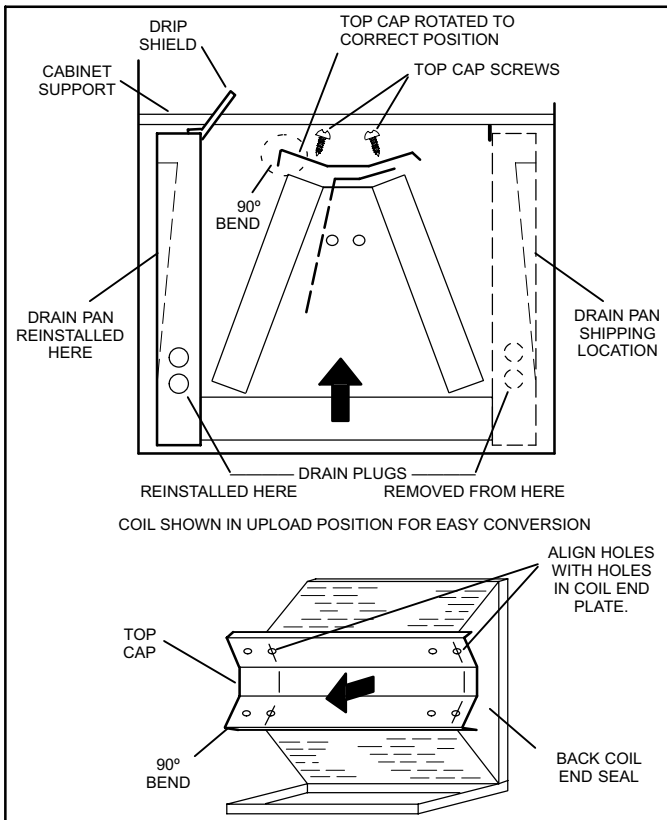

Figure 4. Field Modification for Left-Hand Discharge
- Remove screws from top cap. Remove horizontal drip shield screw located in the center of the back coil end seal as illustrated in figure 4.
- Rotate top cap 180° front-to-back and align with unused screw holes. Holes must align with front and back coil end plates. The top cap has a 45° bend on one side and a 90° bend on the other. The 90° bend must be on the same side as the horizontal drain pan as illustrated in figure 4.
- From the upload position, flip cabinet 90° to the left and set into place. Replace coil assembly. Secure coil in place by bending down the tab on the cabinet support rail as illustrated in figures 4.